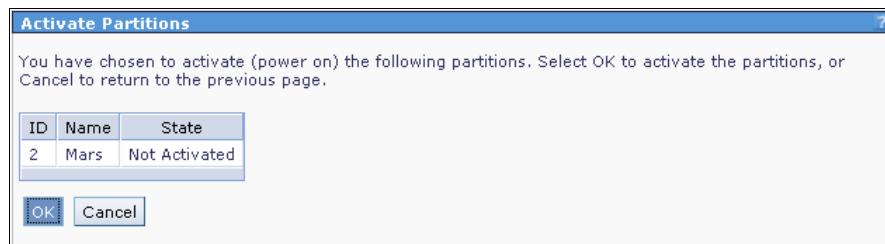

Figure 6-28 Confirm partition activation
2. Confirm the activation of the partition with **OK** as shown in Figure 6-28.